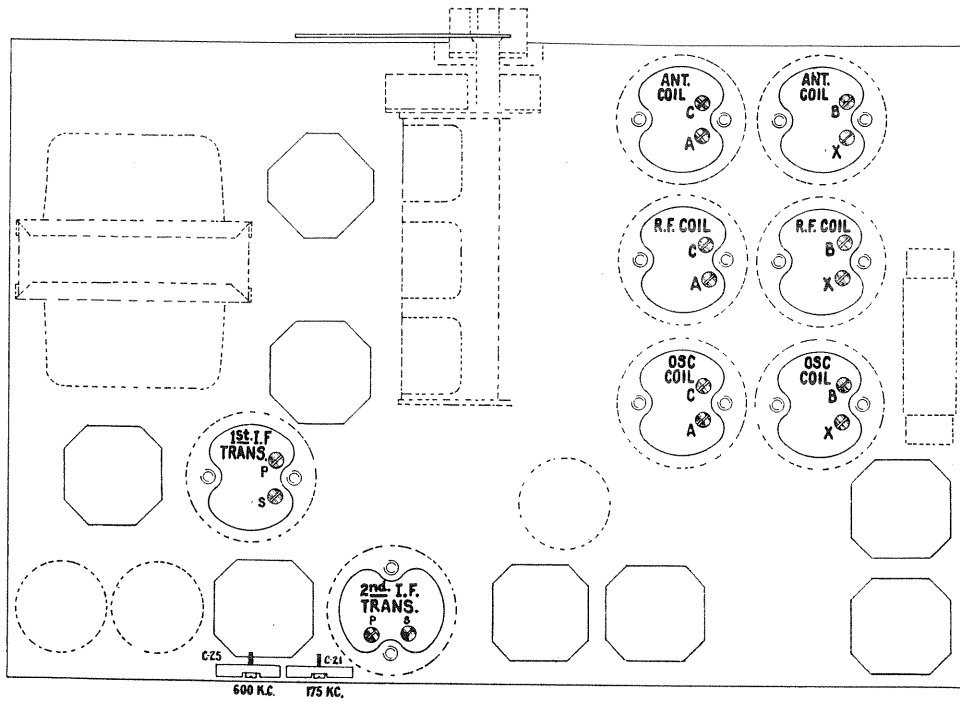

Figure 6—Location of Trimmer Capacitors
- (c) Refer to Figure 6. Adjust each trimmer of the I. F. transformers until maximum output is obtained. Go over the adjustments a second time.
Figure 6 shows the location of the trimmers for each band. Care must be exercised to only adjust the trimmers in the band under test.
- (c) Shift the external oscillator frequency to 175 K. C. Tune in the 175 K. C. signal irrespective of scale calibration and adjust the series trimmer, marked 175 K. C. on Figure 6, for maximum output, at the same time rocking the variable tuning capacitor. Then readjust at 410 K. C. as described in (b).
- Shift the external oscillator frequency to 600 K. C. Tune in the 600 K. C. signal, irrespective of scale calibration, and adjust the series trimmers, marked 600 K. C., Figure 6, for maximum output, at the same time rocking the variable tuning capacitor. Then readjust at 1,720 K. C. as described in (b).